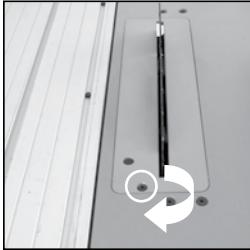

FIG. 2
- Remove the table insert by rotating its fixing screw (**Fig 2**) approx 1/4 turn. Lift & slide the table insert from the table.